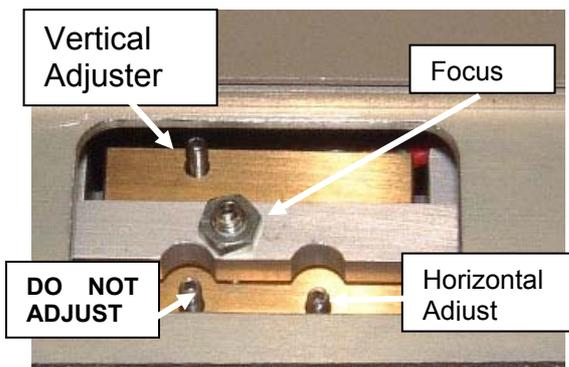

Figure 7:- Xenon lamp alignment screws
- Refer to the figure 7 to ensure that you can identify the various adjuster screws especially the one marked "Do not adjust" which should not be adjusted.